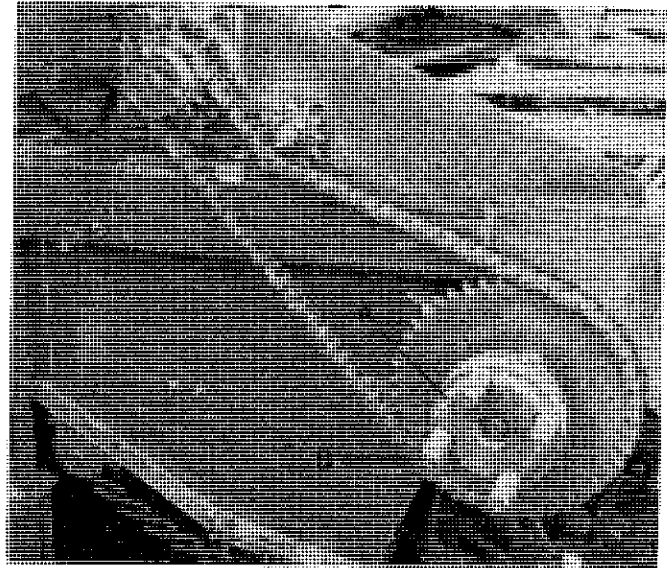

FIGURE 20 - PADDLE SHAFT SLIP CLUTCH
The paddle shaft is protected by a slip clutch (A) (see figure 20). The four (4) springs (B) set the tension of this clutch. The setting recommended is 2-3/8" actual length of springs. Be sure all four springs are the same length. Keep jaws free of grease.